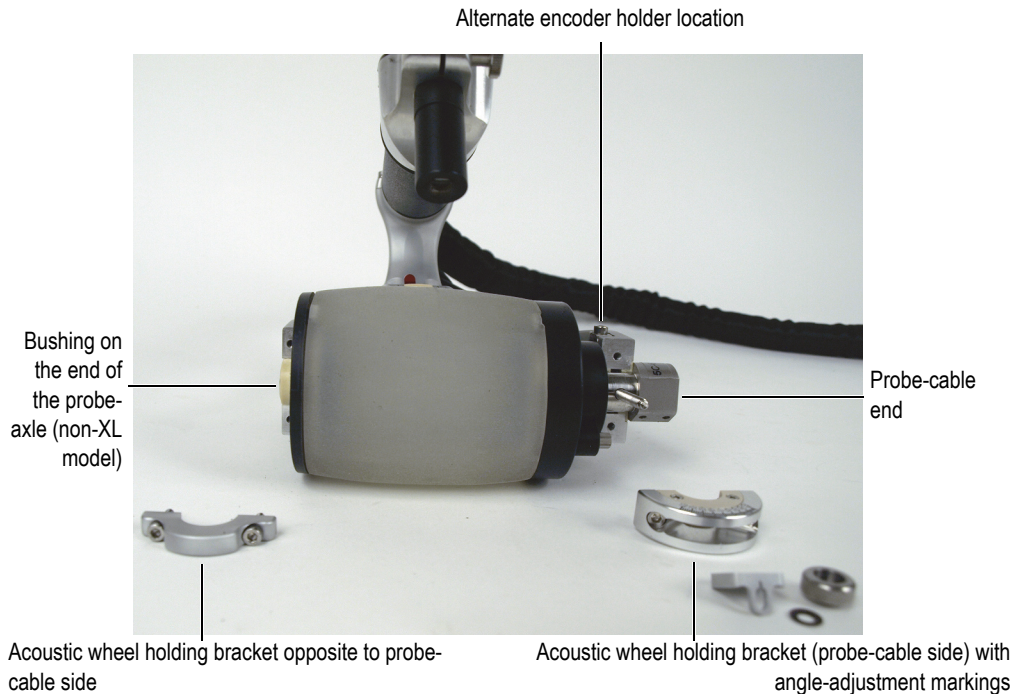

Figure 6-31 Installing the acoustic wheel holding brackets
3. Install the acoustic wheel in the seats on the RollerFORM frame. Take care to insert it with the probe cable on the side of the alternate encoder holder (Figure 6-31 on page 110).